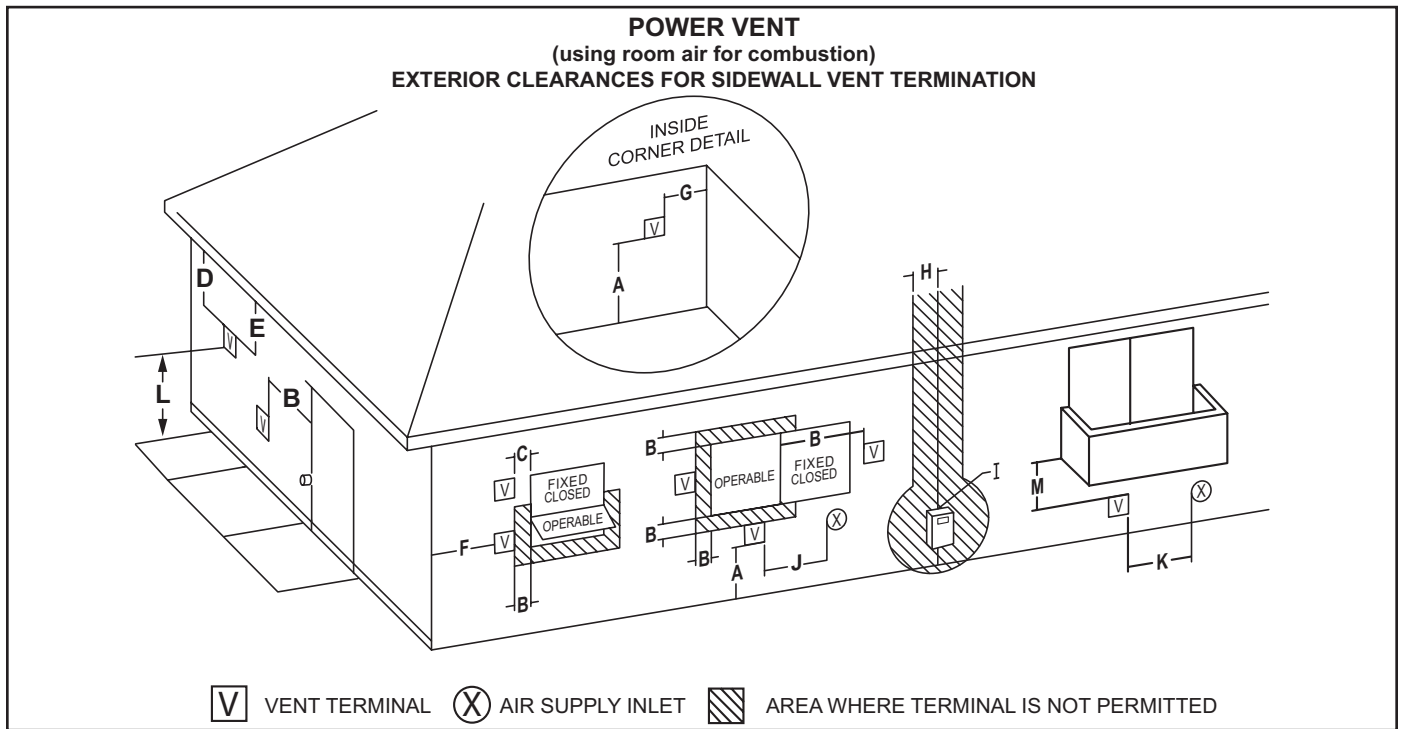

FIGURE 17.
The vent system must terminate so that proper clearances are maintained as cited in local codes or the current edition of the National Fuel Gas Code, ANSI Z223.1 or the Natural Gas and Propane Installation Code CAN/CSA-B149.1, see Figure 17.
3. The blower discharge adapter is made to accept only straight sections of 3" pipe. To start a minimum of 2 inches of 3" pipe must be attached to the blower discharge, see Figure 17.